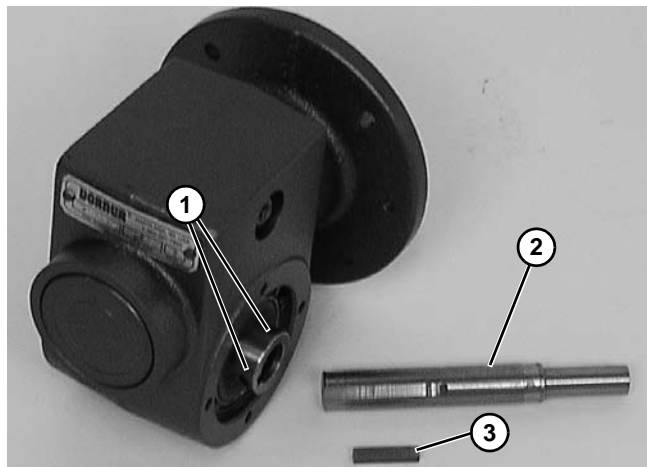

Figure 26
1. Loosen six (6) set screws (Figure 26, item 1). Remove drive shaft (Figure 26, item 2) and key (Figure 26, item 3).
3. Replace the original shaft components into new gear reducer (Figure 26).